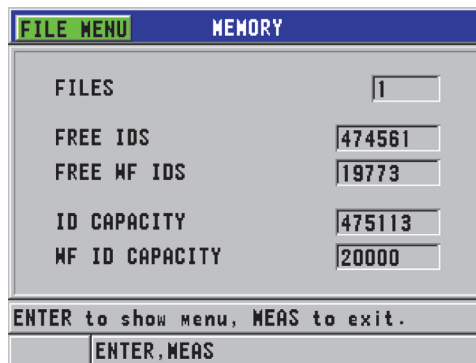

Figure 6-34 The MEMORY status screen
1. Press **[FILE]**, select **MEMORY**, and then press **[ENTER]** to display the **MEMORY** status screen (see Figure 6-34 on page 114). This screen indicates the number of files stored in the internal memory, along with its current capacity.